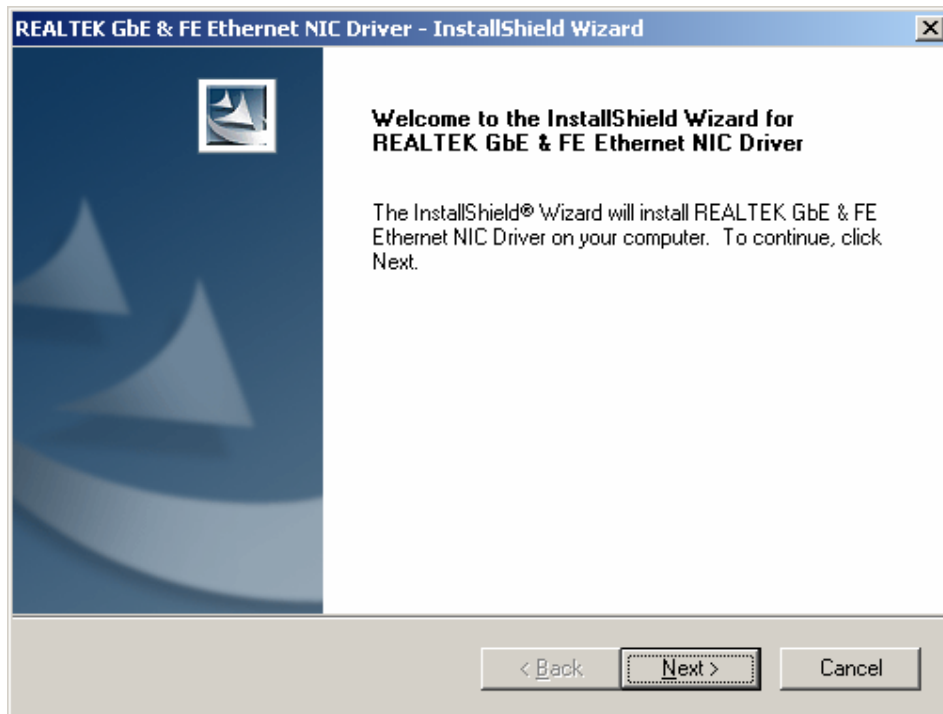

Figure 6-16: Realtek LAN Driver Welcome
Step 2: The InstallShield Wizard Welcome screen appears (Figure 6-16).